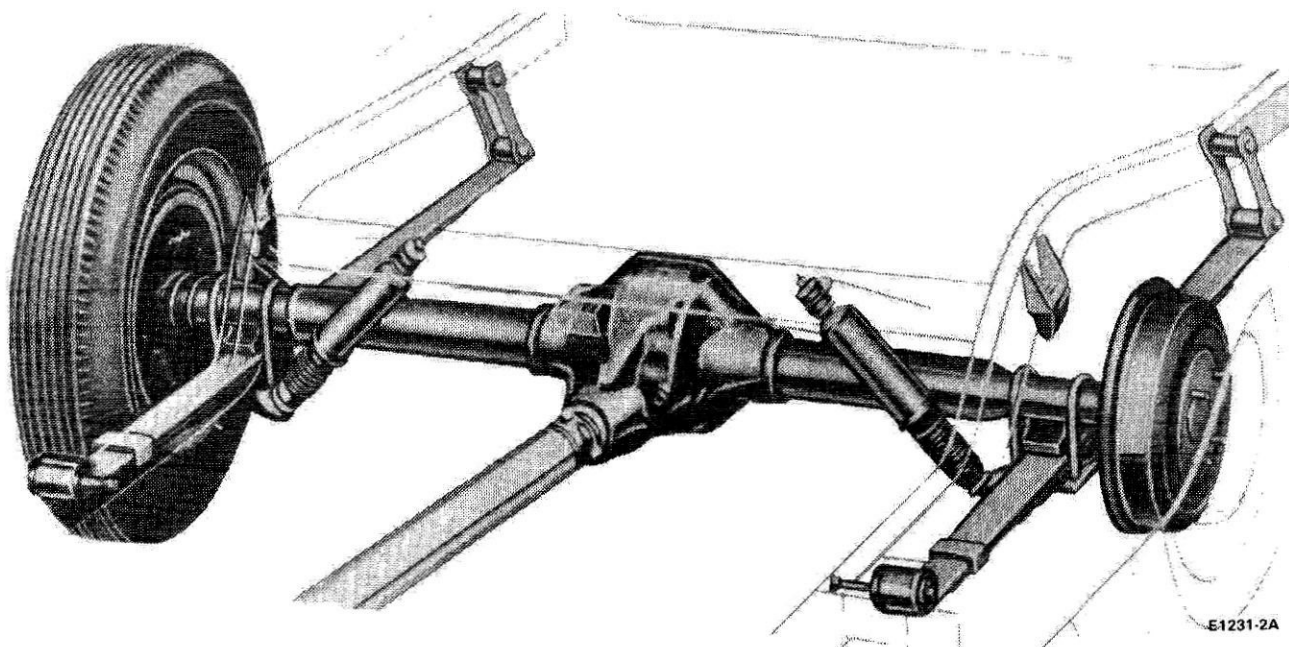

FIG. 12 Rear Axle Installation—Typical
10. Support the rear axle housing on a jack, and then remove the spring clip (U-bolt) nuts. Remove the U-bolts and plates (Fig. 12).